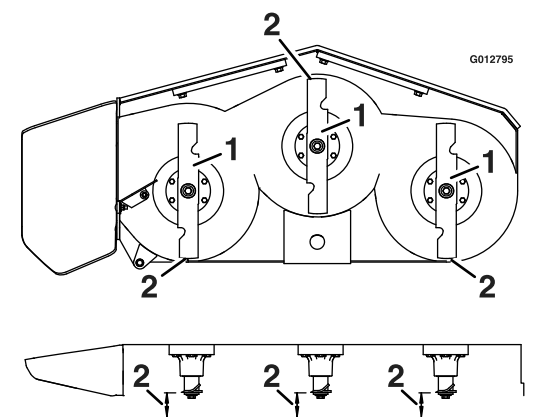

Figure 22
6. Carefully rotate the blades front to rear. Measure from the tip of the front blade to the level surface (Figure 22). The blades should measure 3 inches (7.6 cm).